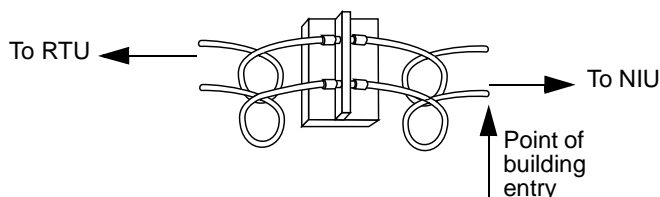

Figure 6. Grounding Block with Drip Loops
4. Leaving enough cable for drip loops (see Figure 6), install F-type connectors to the cables following the guidelines provided by the manufacturer. Use dielectric grease where the cable crimps to the connector and on the mating portion of the connector.
2. Choose and mark both ends of one coaxial cable as the transmit (TX) cable and both ends of the other as the receive (RX) cable.
3. Attach the cable to the grounding block as shown in Figure 6.